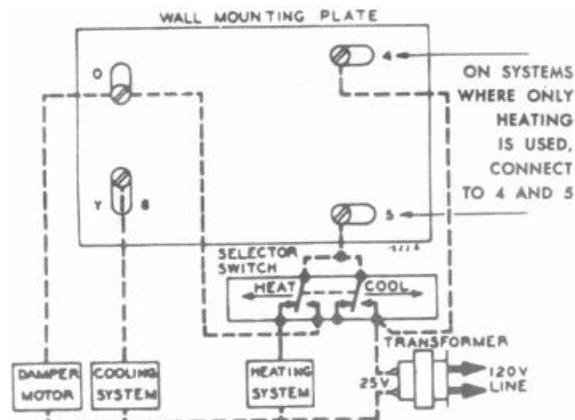

Fig. 3-Wiring Diagram for Heating-Cooling Models (Without use of Sub-Base)
**Heating-Cooling Models** - Connect as shown in Fig. 3 below.